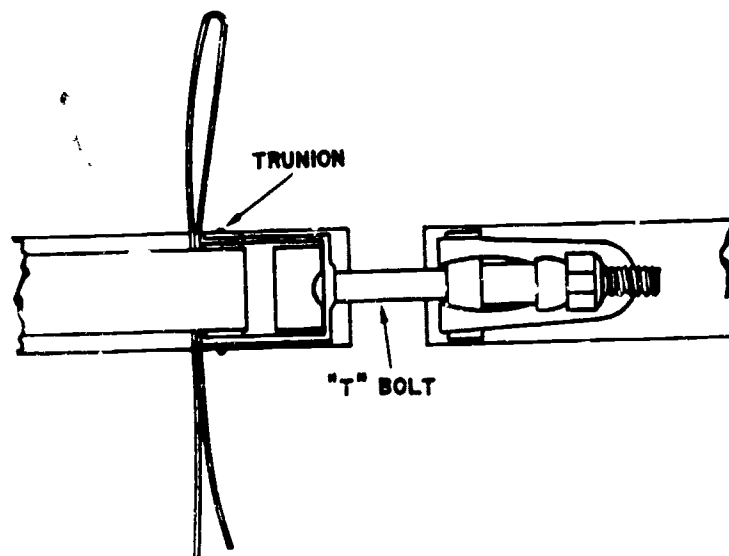

Figure 5. Side View, V-Band Clamp.
- e. Insert the folded end of the wire through the opening in the left side of the clamp, just to the left of the clamp trunion pin. The wire should be inserted through the opening going from the top and pushed through until about 6 inches of wire protrudes out the other side of the clamp. See figure 5.